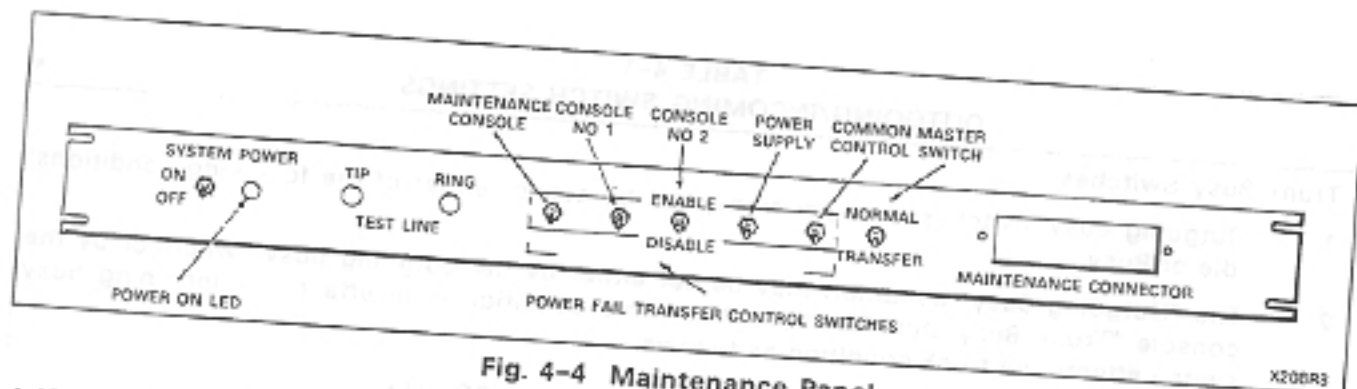

Fig. 4-4 Maintenance Panel
4.39 At the top of the equipment cabinet is the maintenance panel (Fig. 4-4). This panel provides the service personnel with access to the system through the maintenance console connector and test line terminals. Also housed on the maintenance panel are the six Power Fail Transfer Control switches, a system Power ON/OFF switch and a Power ON LED.